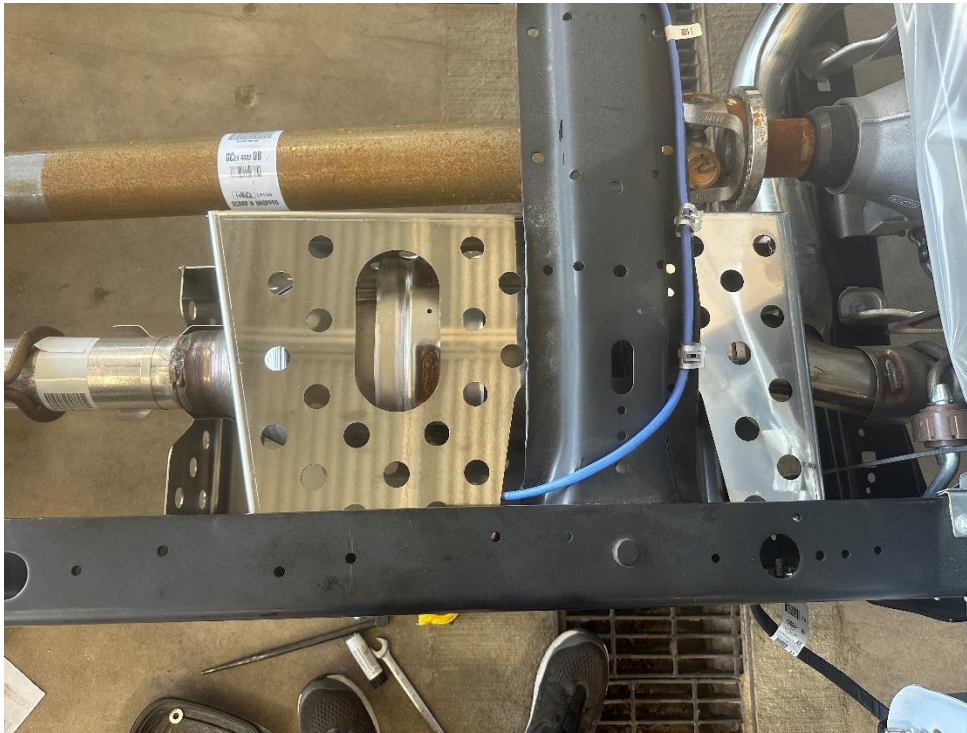
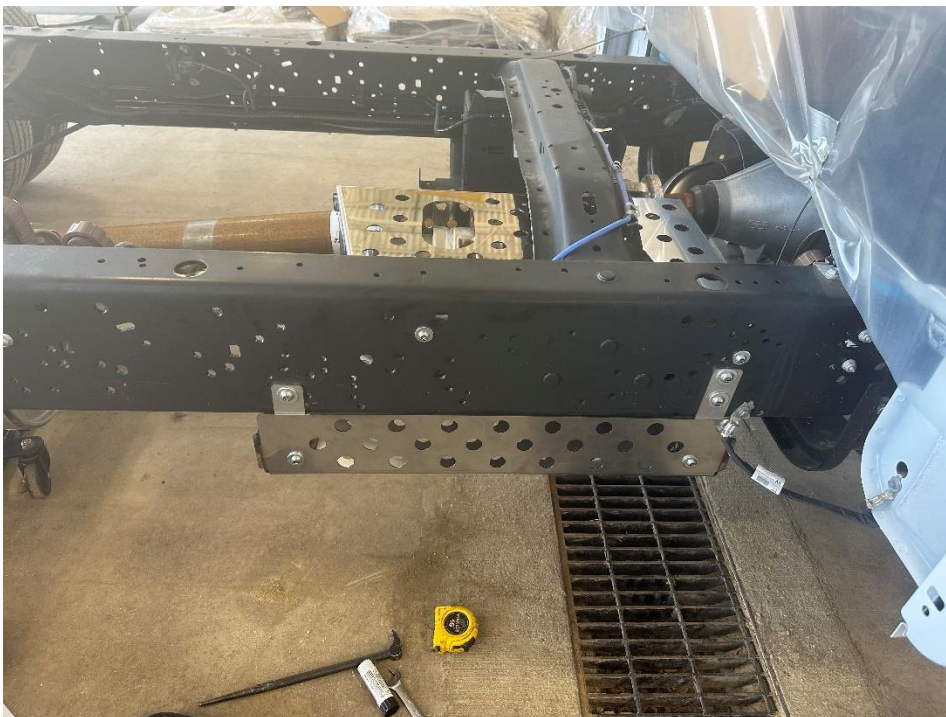
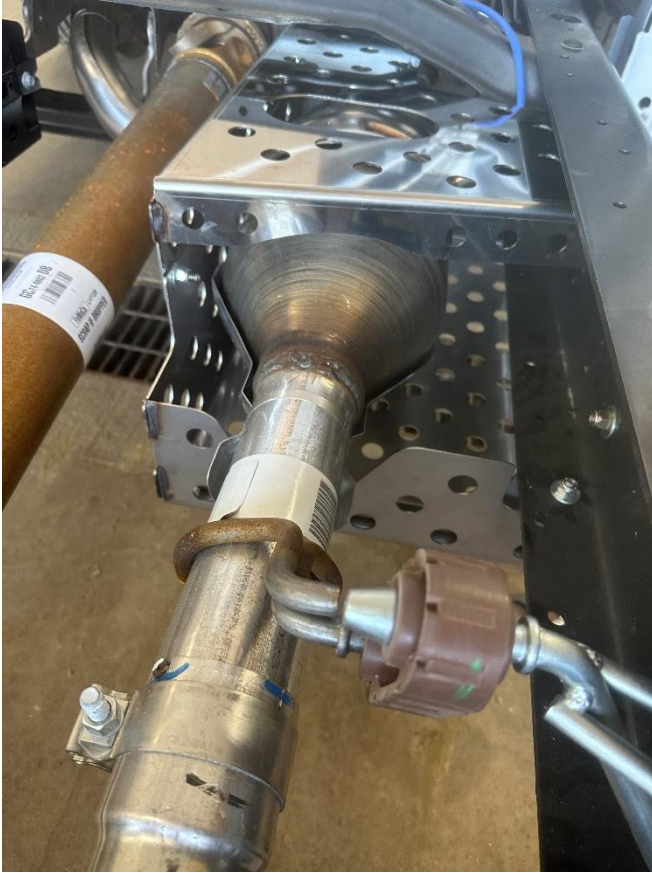

Figure 5
Figure 6
Figure 7
- F. Pass the upper guard over the driveshaft and set it between the cross member and the catalytic converter. Bolt it to lower guard and chassis. See Figure 5, Figure 6, and Figure 7.